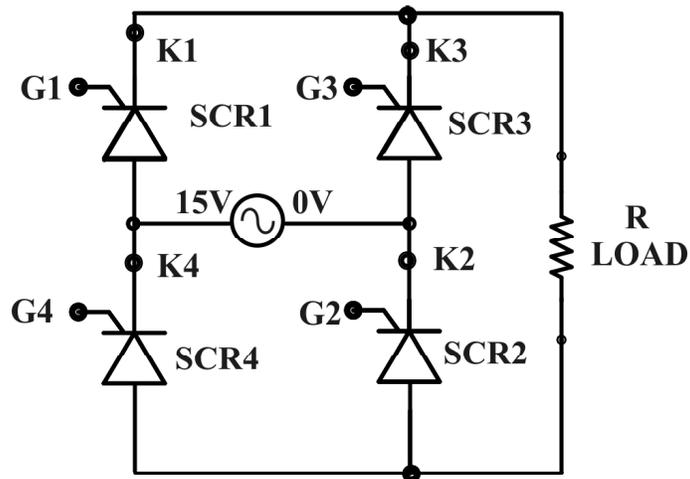

Figure 11
The circuit diagram of basic fully controlled bridge rectifier is shown in the below figure 11
5. Connect the circuit of fully-controlled bridge rectifier as shown in figure 11 using 2 mm patch cords.
8. Vary the firing control Potentiometer and set on  $30^\circ$ ,  $60^\circ$ ,  $90^\circ$ ,  $120^\circ$  and  $150^\circ$  firing angles using equation (11).